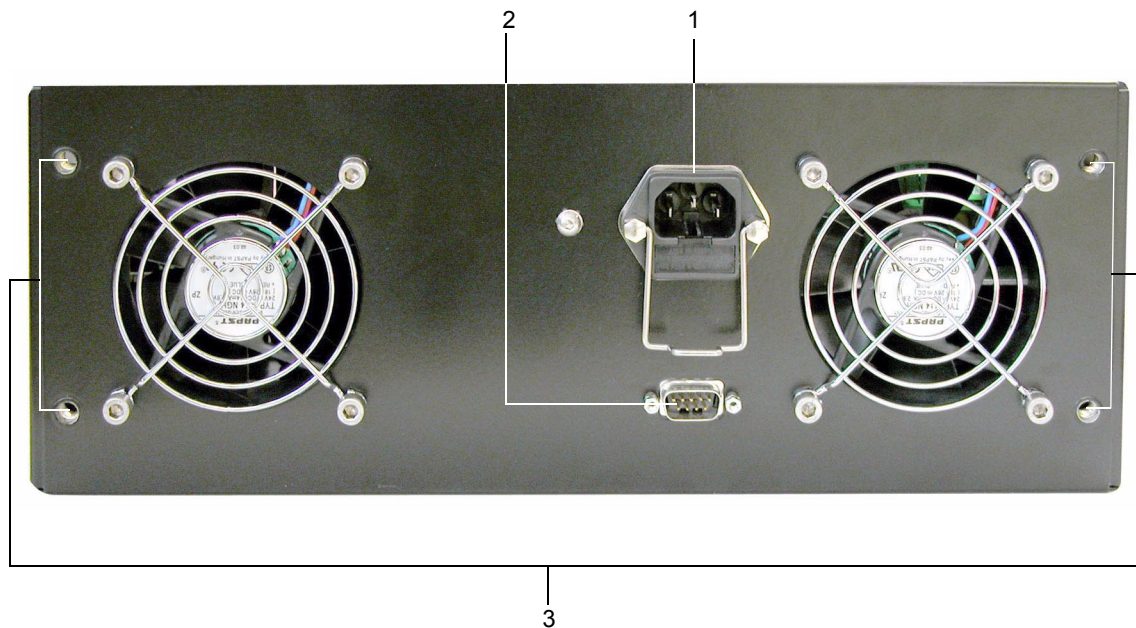

Fig. 17: Removal of Illumination Module
1. **Fig. 17:** Pull down the safety catch and remove the mains supply cable from the mains socket (1).
2. Unscrew the fastening screws of the CAN bus cable and remove it from the CAN bus socket (2).
3. Unscrew and remove the four mounting screws (3).
2. **Fig. 17:** Insert and fasten the four fastening screws (3).
3. Insert the CAN bus cable into the CAN bus socket (2) and fasten the fastening screws.
4. Insert the mains supply cable into the mains socket (1) and fasten the safety catch.